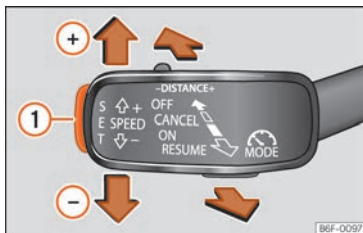

Fig. 224 On the left of the steering column: third lever for operating the GRA.
- Push button **SET** »» Fig. 224 ①.
- Press the button **SET** »» Fig. 224 ① to reduce speed in small increments of 1 km/h (1 mph).